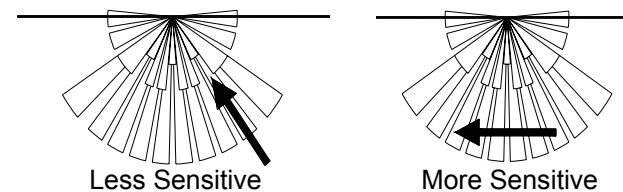

FIGURE 3
4. Where possible, mount the detector in the corner of the room so that the logical path of an intruder would cut across the fan detection pattern. PIR detectors respond more effectively to movement across the device than to movement directly towards it. (FIGURE 3)